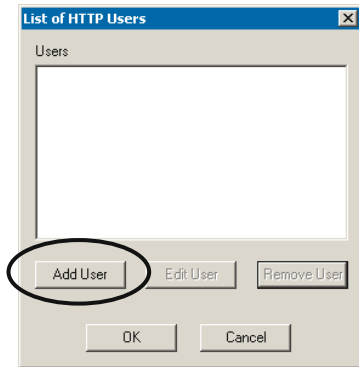

Figure 13.2 List of HTTP Users menu
2. Click **Add User** (see Figure 13.2).